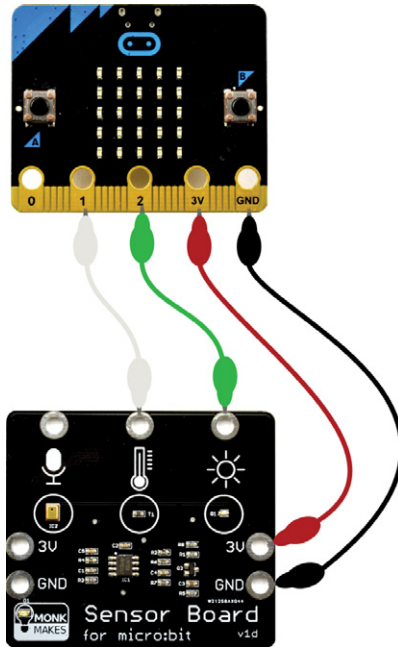

Figure 9-3: Connecting the micro:bit to the Monk Makes Sensor
2. Connect the micro:bit to the sensor board, as shown in Figure 9-3.